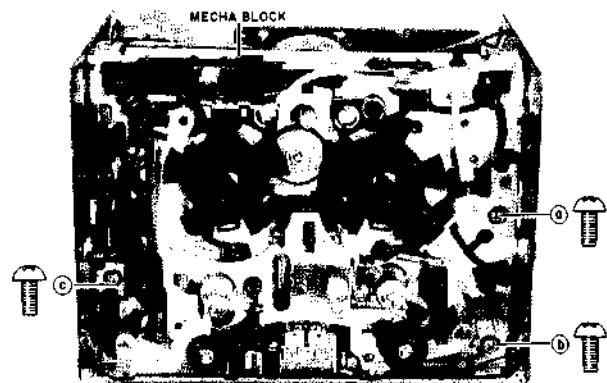

Fig. 4-6
- 3) Remove motor block securing screws ④, ⑥ and ⑦ from the mechanism block front side. Remove the motor block from the mechanism block. (See Fig. 4-6.)